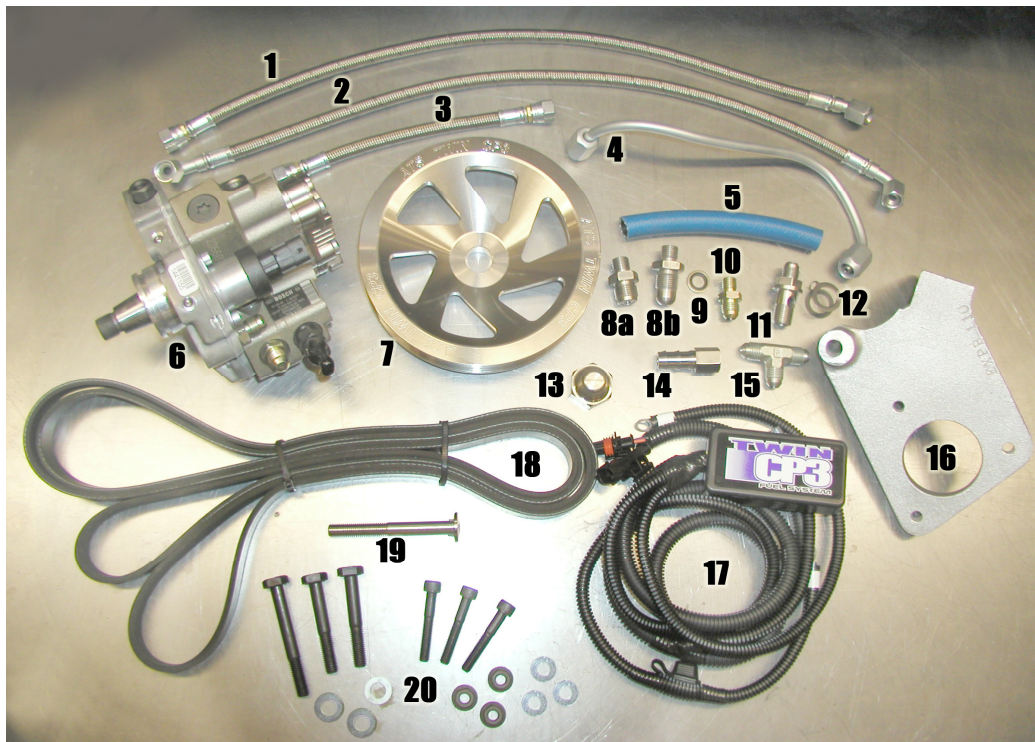
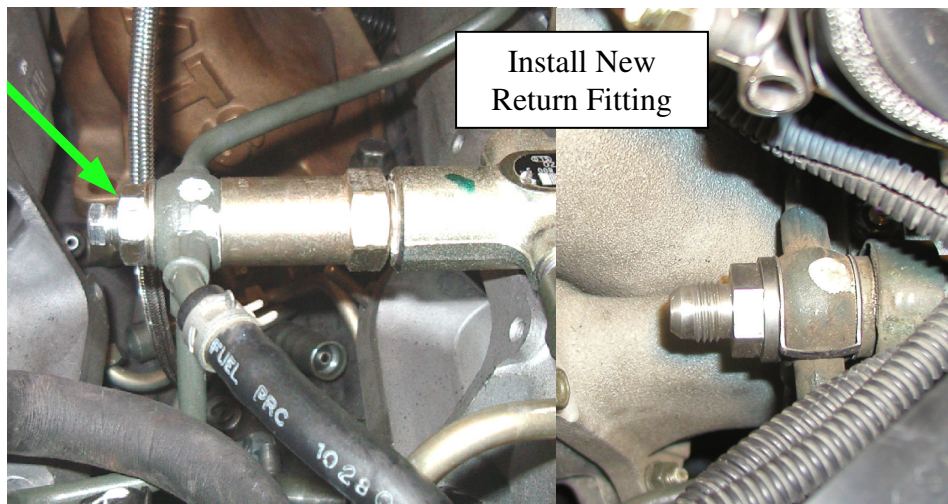

Figure 1: LB7 Twin CP3 Kit
Figure 15: Return Fitting Location
Thank you for purchasing the ATS Twin CP3 Kit. The picture below shows all the components included in the kit. Two rail fittings (8a. and 8b.) are shown in the picture. The 2001-2002 LB7 fuel rail requires fitting 8a. and the 2003-2004 LB7 fuel rail requires fitting 8b. Please check before beginning the installation to make sure all components are in the supplied LB7 Twin CP3 kit. Two ½" barbed to JIC-6 fittings (#14 in **Figure 1**) are provided in the kit for installation variations. The backside large idler pulley is not pictured.
15. Install the -6 supply fitting and seal (#9 and 10 in **Figure 1**) into the factory CP3 pump.
16. Route supplied $\frac{1}{2}$ " fuel hose from fuel filter housing to the supplied -6 tee using the provided $\frac{1}{2}$ " barbed to -6 fitting provided in the kit (#14 in **Figure 1**). Attach hose to fuel filter with existing fuel line clamp.
17. Remove fuel return banjo bolt from the top of the pressure relief valve (**Figure 15**) and install the return combination JIC-6 banjo bolt with the new seal provided in the kit (#11 and #12 in **Figure 1**).
20. Remove alternator bracket bolt shown in **figure 18** and install the 10mm x 1.5 x 80mm button head bolt (#19 in **Figure 1**) into alternator bracket. Do not over tighten.